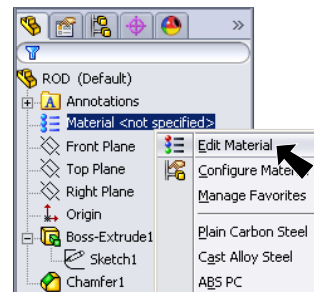

Fig. 8
Step 1. **Right click Material**  in the **Feature Manager** and click **Edit Material**, Fig. 8.